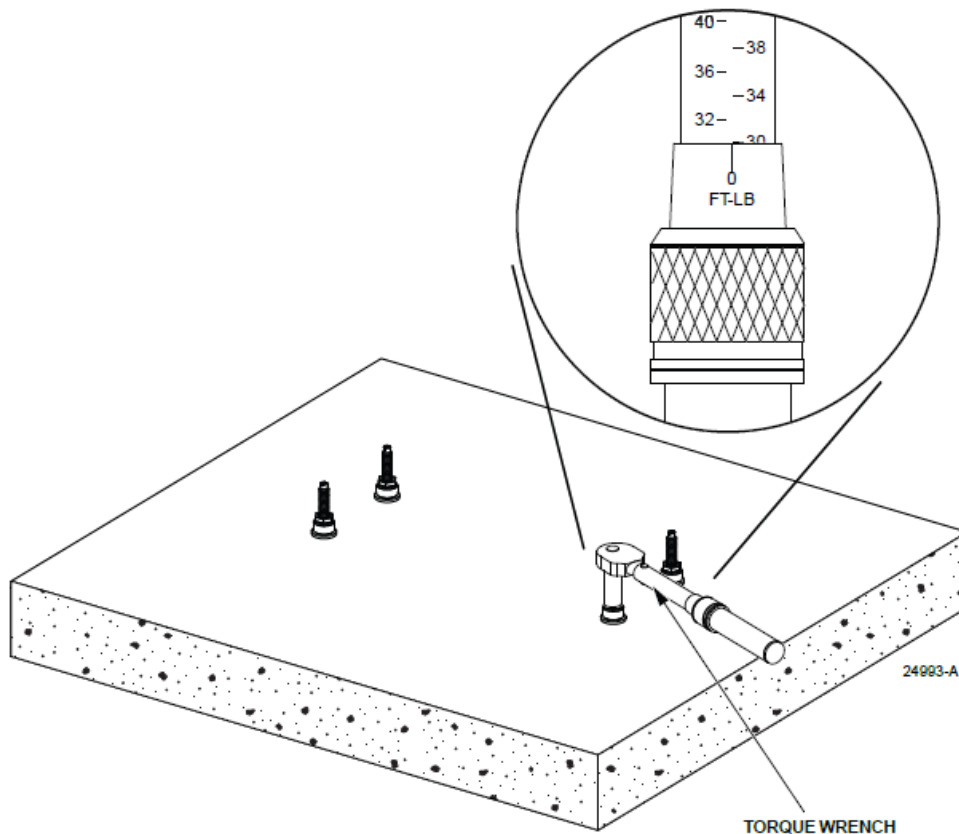

Figure 10. Pre-torquing Anchor Bolt
5. Pre-torque the anchor bolt to approximately 30 foot-pounds (41 Newton meters). Refer to Figure 10.